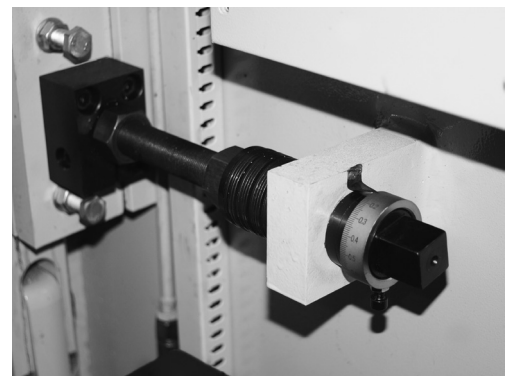

Fig. 5.4
Step 3. Set the rapid blade adjustment to the correct gap. Repeat the operation at the opposite end of the machine to ensure that the blade is parallel. (Fig. 5.4) If the blade is not parallel see section 5.3